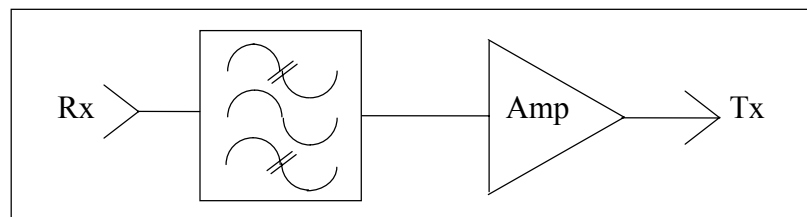

Figure 2-17. Transfer Filter
6. Any of the RFL 9745's four channels can be configured to operate as a transfer filter as shown in Figure 2-17. (This is also referred to as the "pass-through" mode.) When operating in this mode, the RFL 9745's programmable parameters can be used to define the filter's bandwidth and amplification factors.